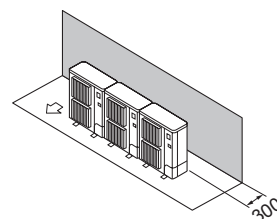

Fig. 2-12
- ① Solo ostacoli posteriori (Fig. 2-12)